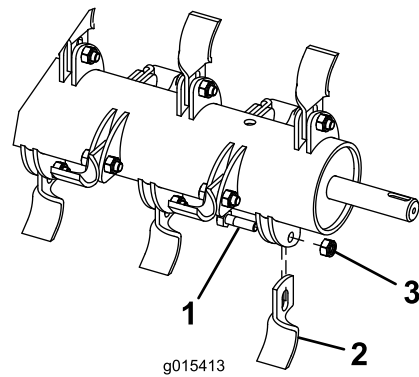

Figure 6
1. Holding the blade in a rag or padded glove, remove the nut, blade bolt, and blade (Figure 6).
3. Install a new blade with a new nut and blade bolt (Figure 6).